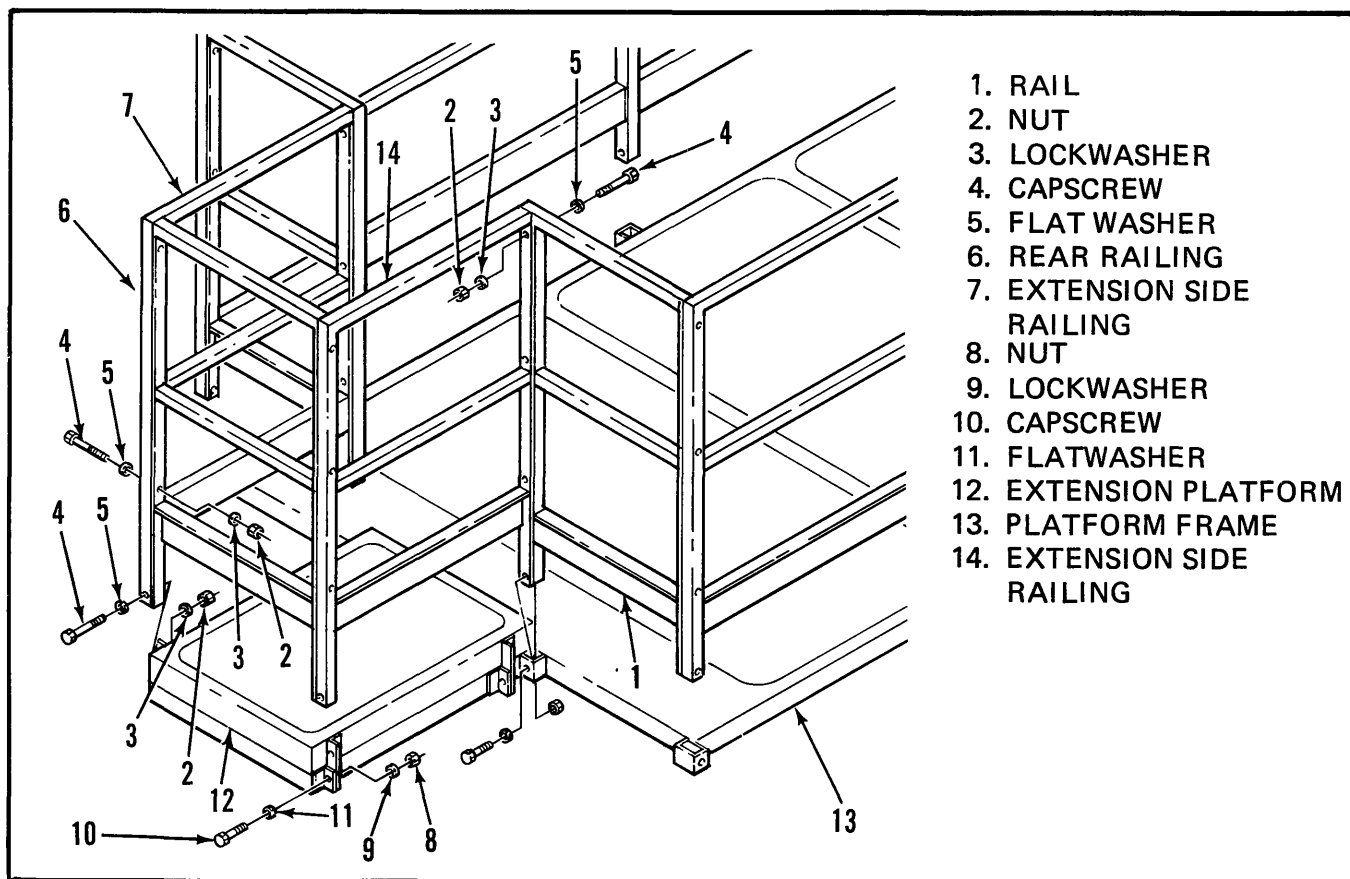
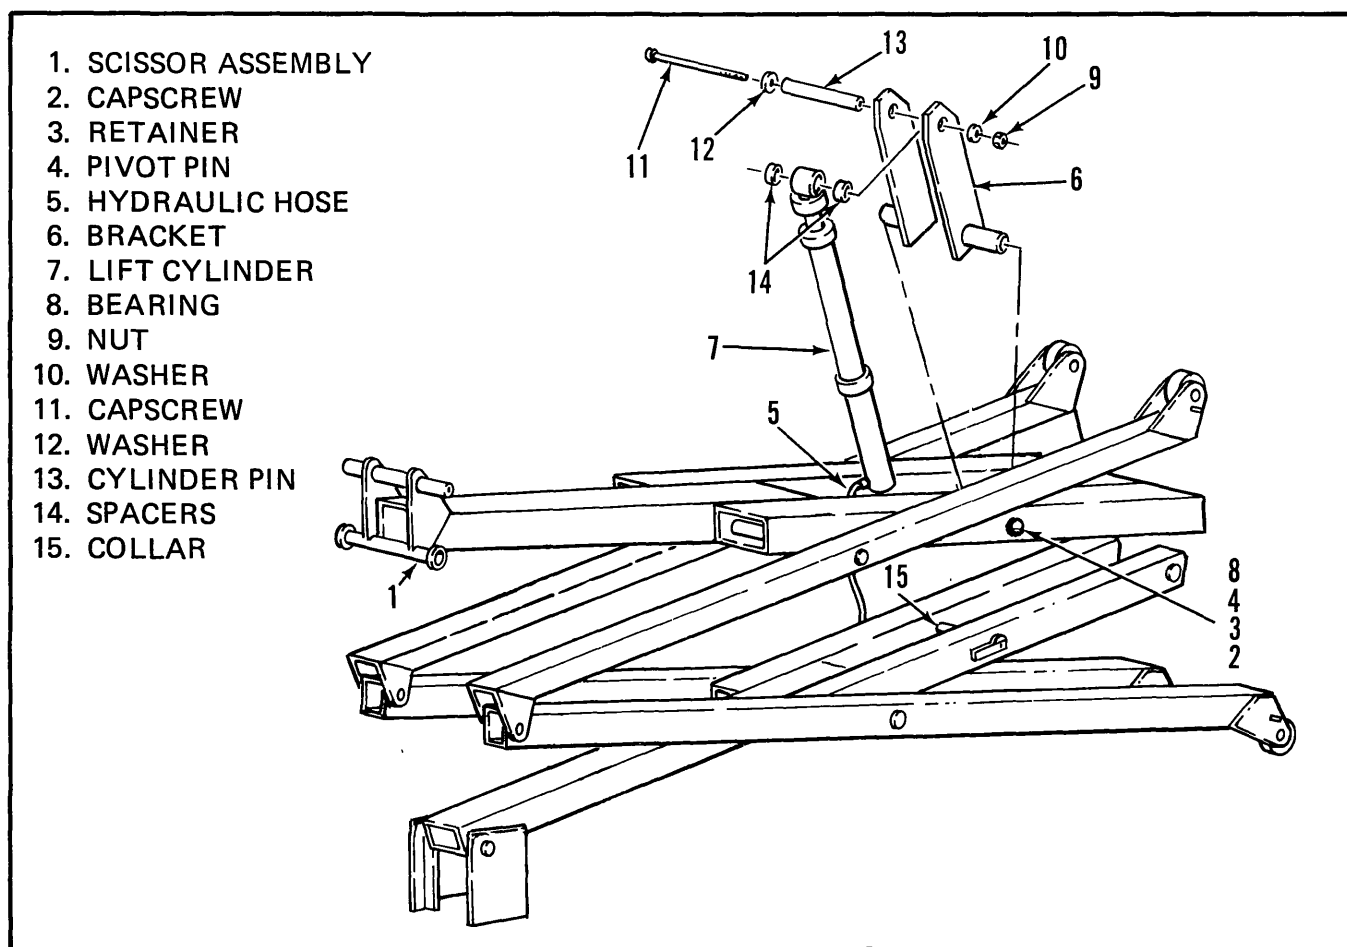
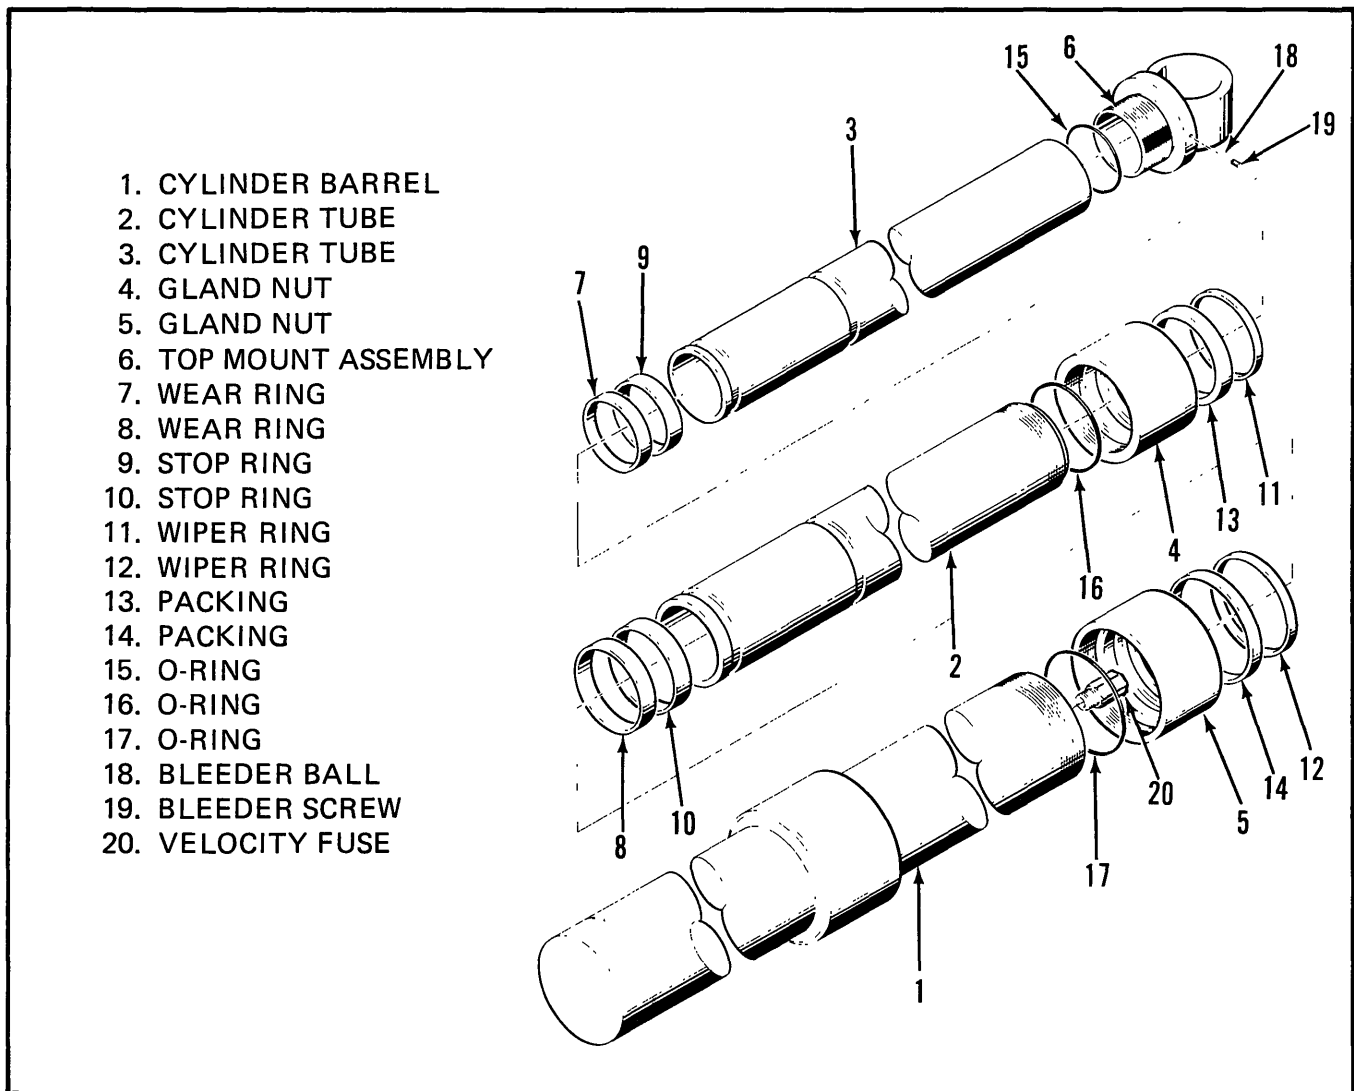

Figure 5-19. Extension Platform Removal
Figure 5-20. Lift Cylinder Removal
Figure 5-21. Lift Cylinder
(1) Refer to Figure 5-19 and remove the nuts (2), lockwashers (3), capscrews (4) and lockwashers (5) to remove the rear railing (6) and extension side railings (7 and 14).
(4) Provide a suitable container to catch the draining hydraulic fluid then, refer to Figure 5-20 and disconnect the hydraulic hose (5), and fitting, from the base of the lift cylinder (7).
(5) Remove the nut (9) and washer (10) then slide the cylinder pin (13) out to one side allowing one bracket (6) to swing free.
(6) Remove the capscrew (11), washer (12) and cylinder pin (13) allowing the other bracket (6) to swing free of the cylinder.
(7) Remove the brackets (6).
(1) Refer to Figure 5-21 and unscrew the gland nut (5) and withdraw the two cylinder tubes (2 and 3) with all the attached components. Discard o-ring (17).
(2) Remove the wear ring (8) and stop ring (10) then, slide the gland nut (5) down off the cylinder tube (2).
(3) Remove and discard packing (14) and wiper ring (12) from gland nut (5).
(4) Unscrew the gland nut (4) from the cylinder tube (2) and withdraw the cylinder tube (3) and all attached parts. Discard o-ring (16).
(1) Attach a suitable hoisting device to the top of the cylinder and install the cylinder in the scissor linkage.
(2) Refer to figure 5-20 and install the brackets (6).
(3) Position the spacers (14) between the brackets (6) and the end of the cylinder (7) then slide the cylinder pin (13) through the assembly.
(4) Install the capscrew (11), washers (12) and nut (9).
(5) Connect the hydraulic hose and fitting (5).
(6) Refer to Figure 5-21 and loosen the bleeder screw (19).
(7) Operate the hydraulic lift circuit to allow trapped air to escape the lift cylinder. Once hydraulic fluid flows continuously from the bleed port, tighten the bleed screw and check for leaks.
(8) Refer to Figure 5-19 and position the extension platform (12) in place on the platform frame (13). Secure with capscrews (10), flat washers (11), lockwashers (9) and nuts (8).
(9) Position the extension side railings (7 and 14) and rear railing (6) in place and secure with capscrews (4), flat washers (5), lockwashers (3) and nuts (2).